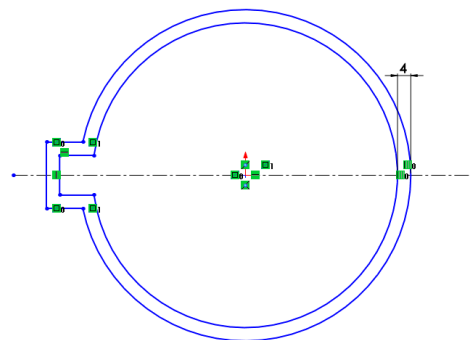

Figure 3-72 Sketch after offsetting the outer loop
- e. Offset the entire sketch, refer to Figure 3-72.
The sketch after offsetting the outer loop is shown in Figure 3-72.